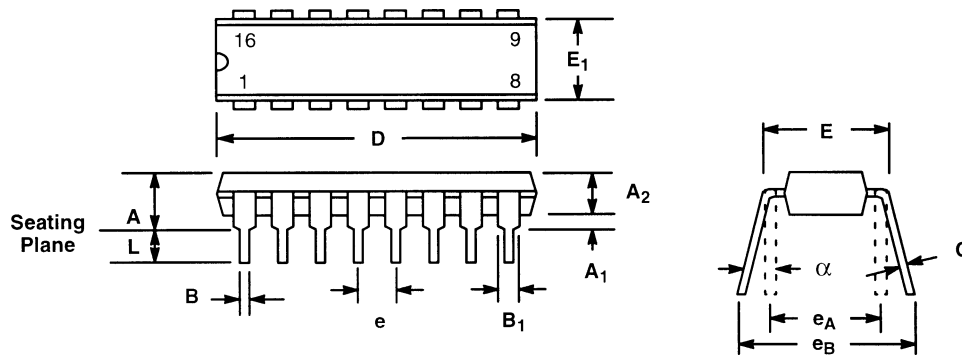

**Figure 2. XRT6164 Line Driver Application**
*Figure 2* shows a general line driver application circuit using the XRT6164. This device converts bipolar transmit and receive signals in the 64Kbps to 1.544Mbps range to active-low TTL compatible logic levels.
Bipolar signals that have been attenuated and distorted by twisted pair cable are transformer-coupled to the line side of the XRT6164 as shown on the left side of *Figure 2*. Suggested transformers for both the input and output applications are the Pulse types PE-65535 or TTI-7147 for 64Kbps use and the PE-65835 for 1.544Mbps applications.
The right side of *Figure 2* shows the TTL compatible digital inputs and outputs. Please refer to the pin description section of this data sheet for detailed information about each signal.